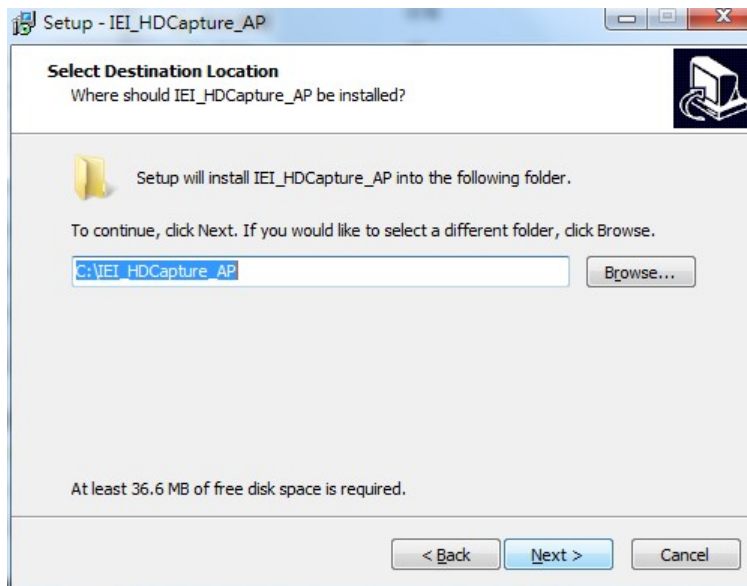

Figure 3-2: Select Installation Folder
Step 5: Select a folder for IEI HD Capture installation as shown in Figure 3-2.